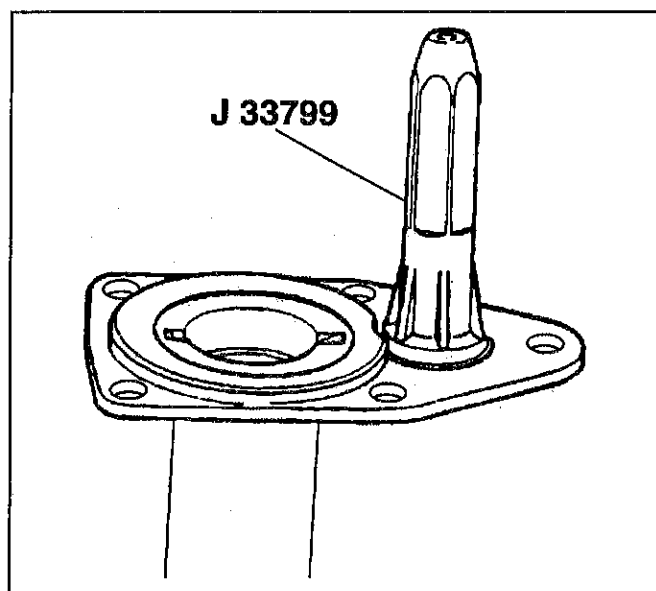

Figure 8—Installing the Shift Cable Housing Seal
3. Seal using J 33799 (Figure 8).